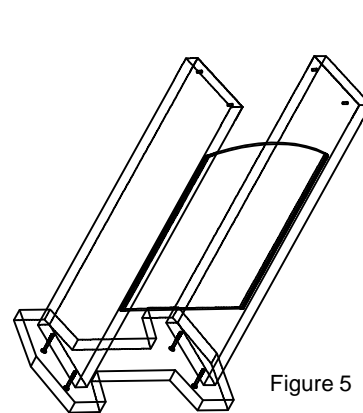

Figure 5
- C) Have your partner hold lectern forward as shown in Figure 5.
- D) Tighten the (4) Long Flat Head Screws that were installed in Step#1.